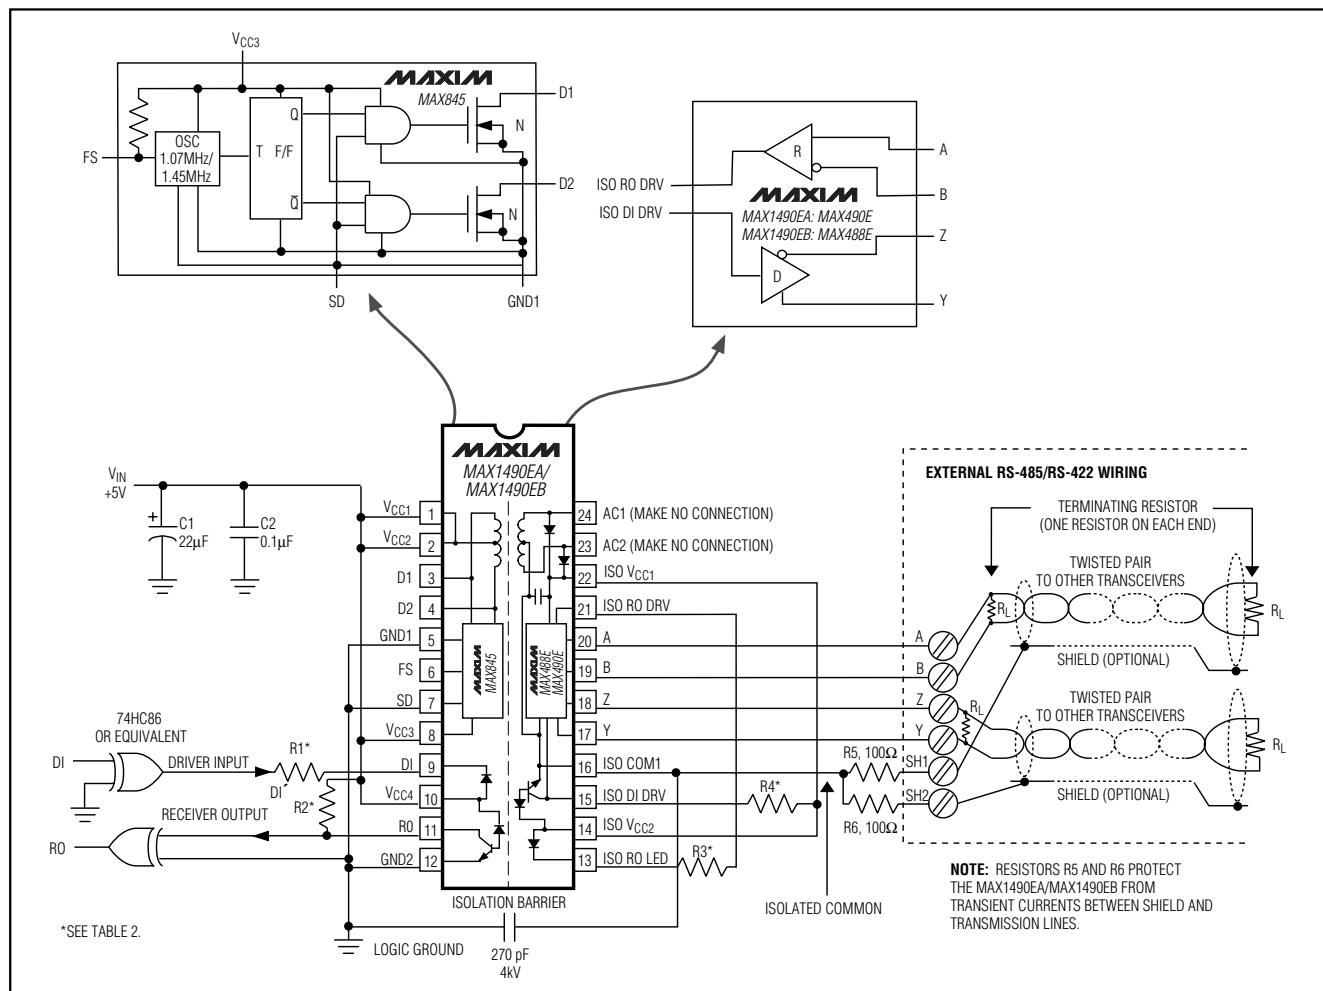

Figure 2. MAX1490EA/MAX1490EB Detailed Block Diagram and Typical Application Circuit
Note 2: For DE⁺ and DI⁺ pin descriptions, see *Detailed Block Diagram and Typical Application Circuit* (Figure 1 for MAX1480EA/MAX1480EC, Figure 2 for MAX1490EA/MAX1490EB).
Note: For DE⁺ and DI⁺ pin descriptions, see Detailed Block Diagram and Typical Application Circuit (Figure 1 for MAX1480EA/MAX1480EC, Figure 2 for MAX1490EA/MAX1490EB).
Table 2. Pullup and LED Drive Resistors for Figure 2
* For DE' and DI' pin descriptions, see Detailed Block Diagram and Typical Application Circuit (Figure 1 for MAX1480EA/MAX1480EC, Figure 2 for MAX1490EA/MAX1490EB).